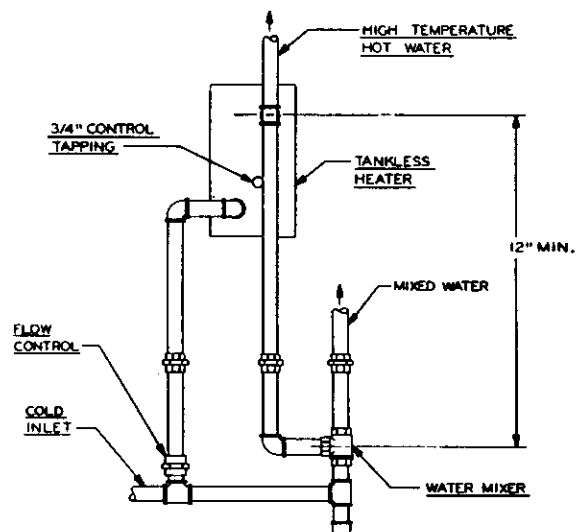

FIGURE 3A
Install Water Heater (17) when required in large opening in back section. See Figure 3A for suggested piping.